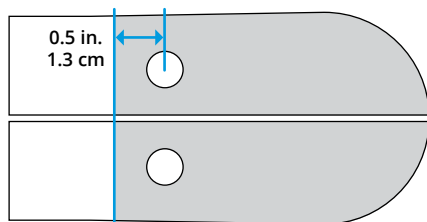

Figure 3
Apply adhesive to the underside of the pylon from the distal end to approximately 0.5 inch (1.3 cm) behind the bolt holes (Figure 3). Torque the bolts to 10–12 N·m with a 10 mm socket. Allow adhesive to fully cure before foot is used.
- Push the foot shell up onto the heel or, if necessary, insert a shoehorn into the foot shell and allow the heel to slide down a shoehorn into the heel lock. The heel must lock (Figure 3) in place for proper function and safety.